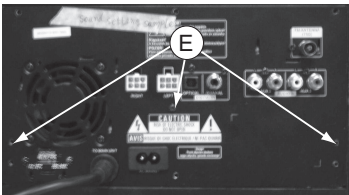

Figure 5
- 1) Loosen 3 screws "E" as shown in figure 5.